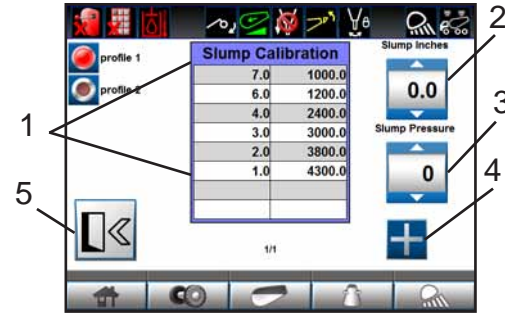

Figure 45
1. Touch the screen at the slump calibration line you want to adjust the reading for a given slump (Figure 45, Item 1).
2. Adjust either the “slump inches” or the “slump pressure” as required (Figure 45, Items 2 and 3).
3. Touch the “+” sign to add additional slump indication points (Figure 45, Item 4).
4. Touch the BACK button the save (DO NOT touch the HOME button) (Figure 45, Item 5).